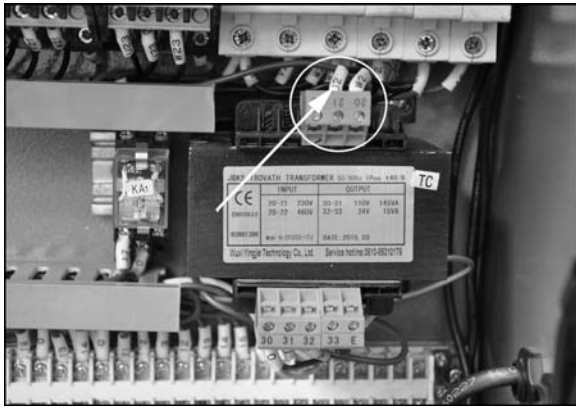

Figure 21 – Transformer rewiring
4. **Transformer:** Open electrical box on rear of machine on the headstock side. Switch wire from 230V terminal to 460V terminal as outlined on the transformer label. See Figure 21.